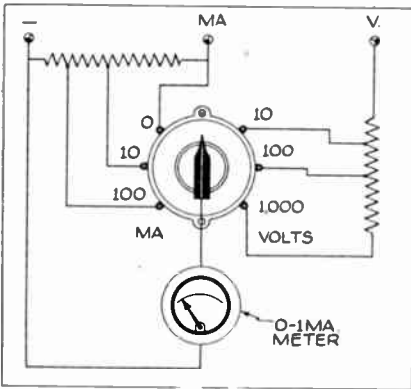

Fig. 50
(A) See the accompanying Fig. 50. Find the resistance of your meter by asking the manufacturer. The series resistors may be calculated